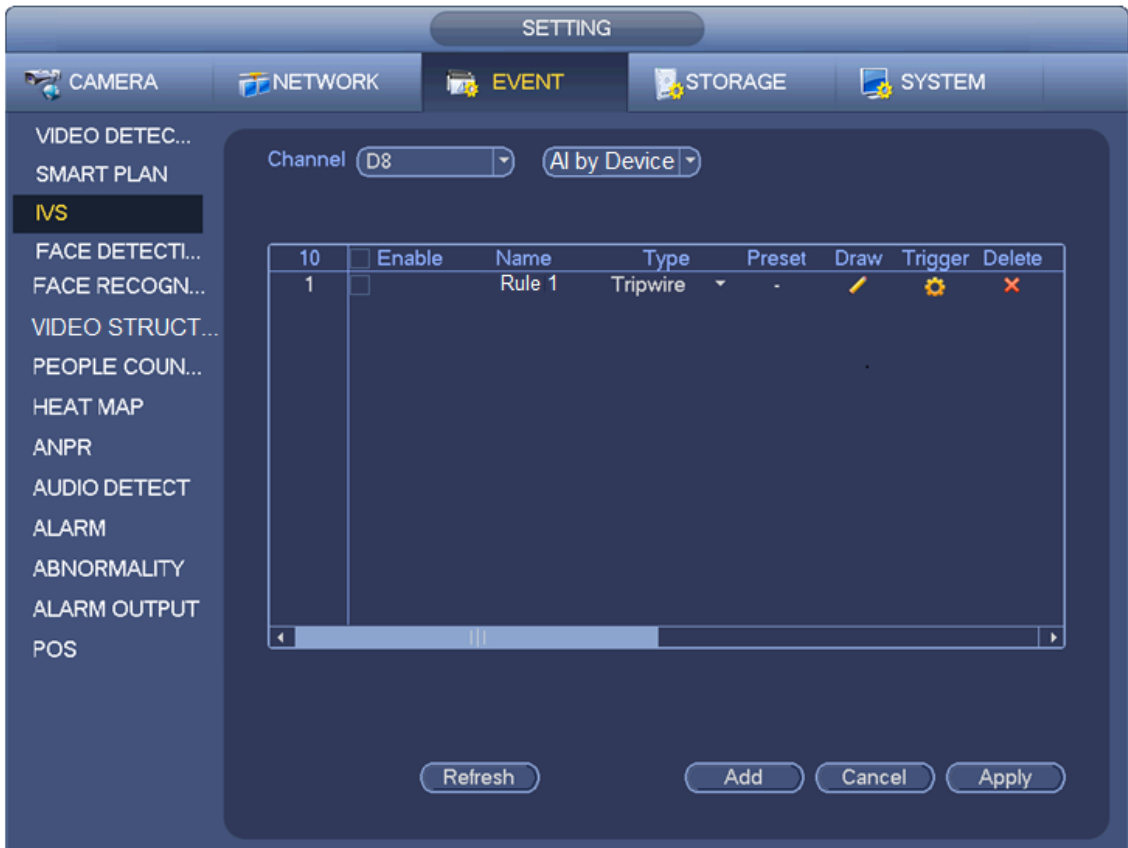

Figure 4-130
Step 1 In the Type drop-down list, select Tripwire. See Figure 4-130.